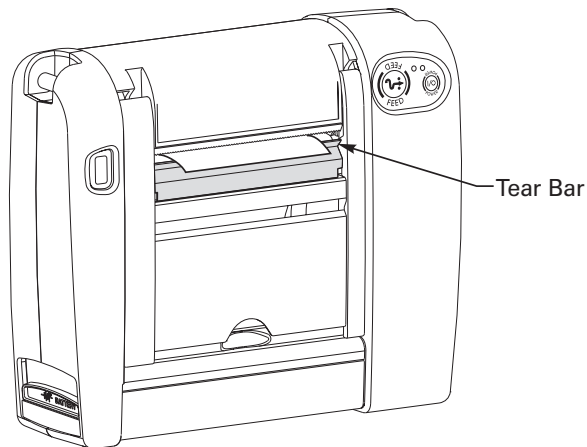
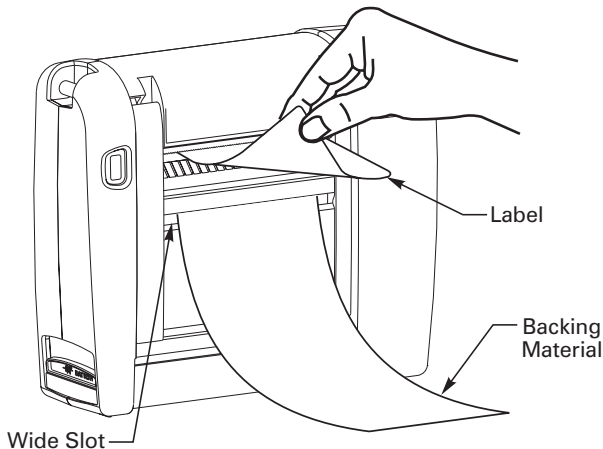
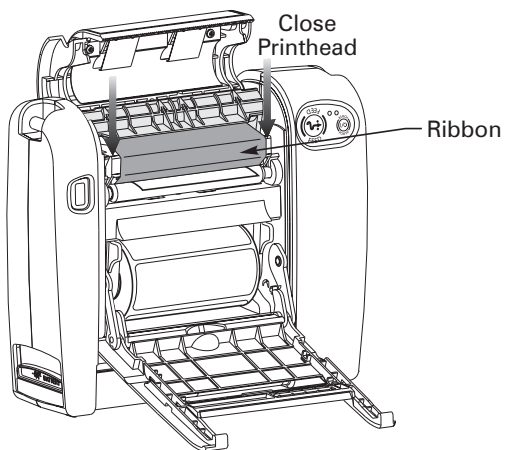

Figure 8
Figure 10
Figure 16
11. Swing up the media access door, ensuring that the media extends over the tear bar (refer to Figure 8).
11. Swing up the media access door, ensuring that the media liner is threaded through the wide slot in the media access door (refer to Figure 10).
**NOTES:** To ensure optimal print quality, make sure that the backing material is flush against the peel bar (as shown in Figure 10). If it starts to “loop” away from the peel bar, gently pull down on the backing material.
5. Close the printhead (refer to Figure 16) and the top cover. Swing up the media access door, ensuring that the media is properly extending out of the printer (see Figure 8 for Tear-Off, or Figure 10 for Peel-Off).